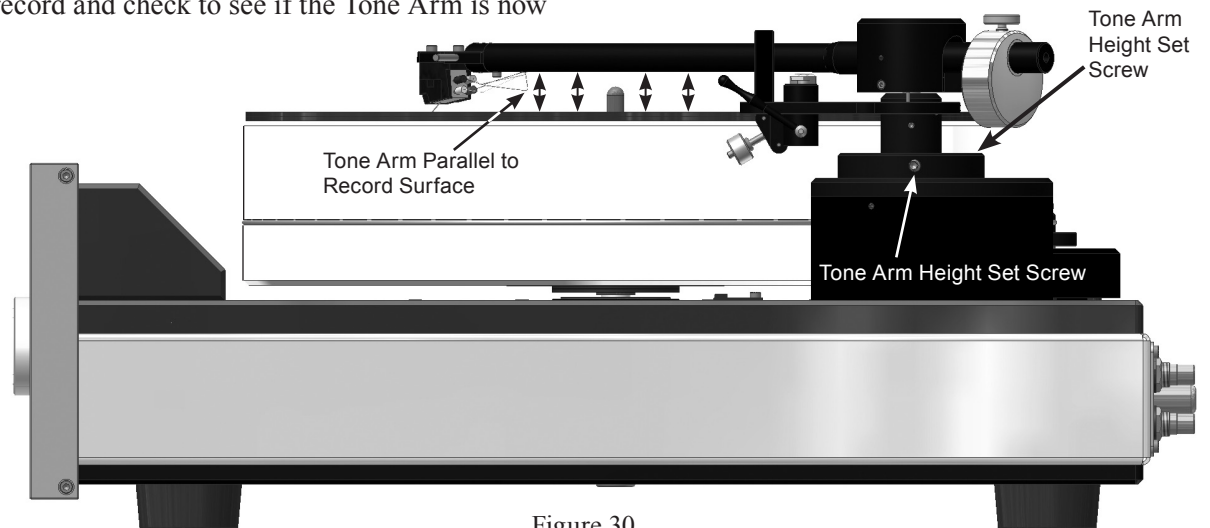

Figure 30
2. With the Tone Arm secured in the Tone Arm Rest, carefully loosen the two set screws while supporting the rear of the Tone Arm. Reposition the Tone Arm based on findings in the previous step. Temporarily tighten one of the set screws. Refer to figure 30.